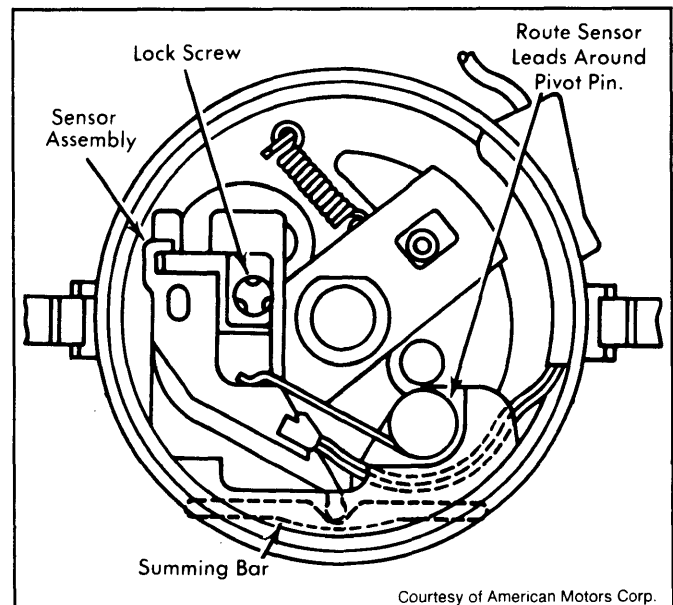

Fig. 6: Installing Sensor Assembly
2) Install sensor assembly on vacuum chamber bracket. Make certain that tip of sensor is located properly in summing bar. See Fig. 6. Place spring in its proper position on sensor, then route leads around pivot pin. Install grommet in distributor bowl while making certain leads will not be hooked by trigger wheel.